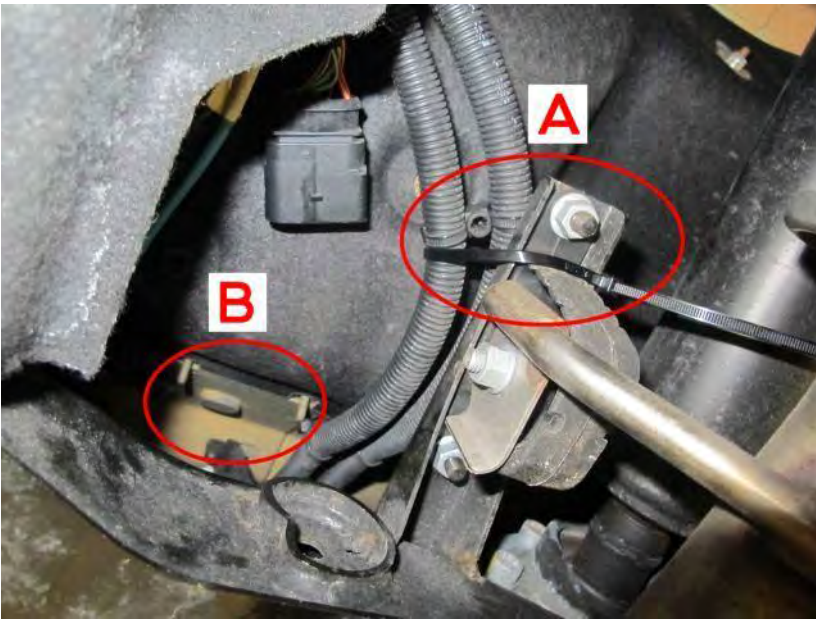

Figure 10
- Referring to Figure 10 - With care remove the battery cable clips from the applicable floor studs after removal secure as shown at Point A (for example) - Access to the location shown at Point B is required for underseal removal (*when instructed*)